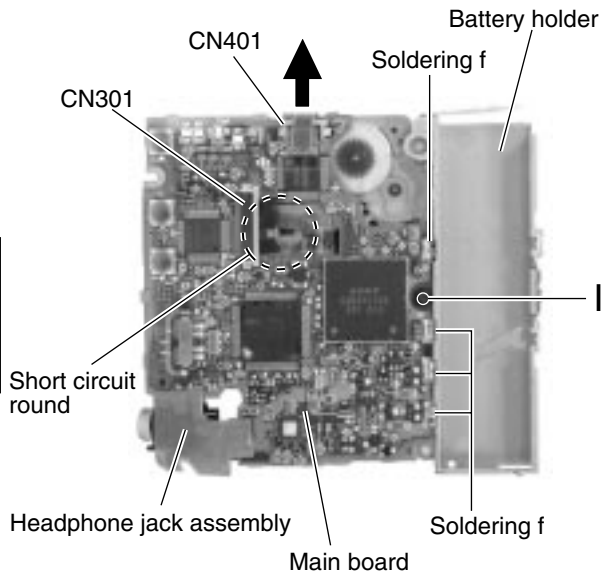

Fig.8
2. Remove the screw **B** and pull out the side arm (R) upward.
**■ Removing the main board and the battery holder (See Fig.8 and 9)**